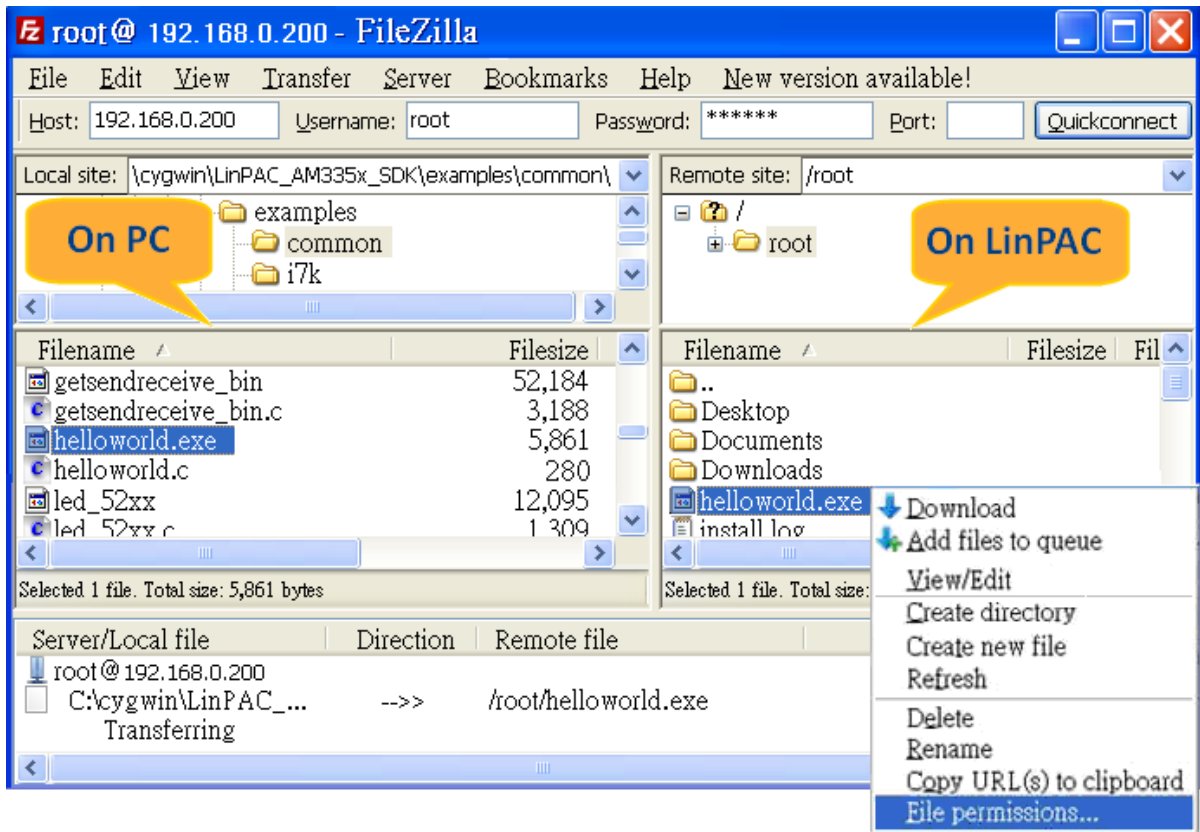
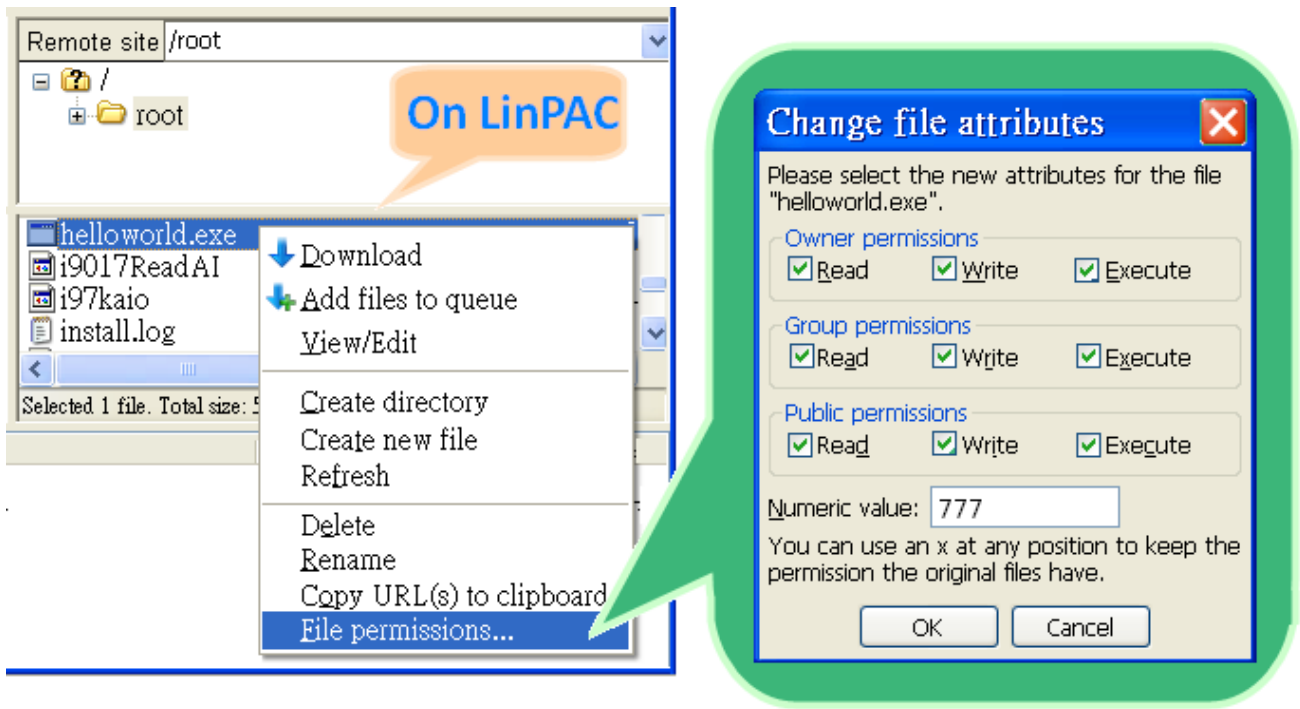

Fig.3-30
Fig.3-31
(4) Click the helloworld.exe file in the LP-2241 to select it and then right click the file icon and click the “File Permissions” option. In the Properties dialog box, type 777 into the Numeric textbox, and then click the OK button. Refer to Fig. 3-30 and Fig. 3-31 for more details.